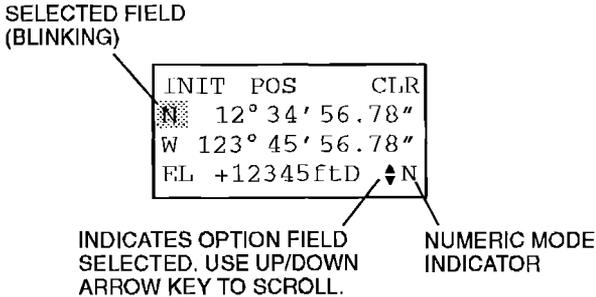

Figure 2-7 Numeric Mode Indicator.
- (1) If the selected field has a number, pressing a key (0 through 9) enters the number. The cursor then moves to the next selectable field. Only one character position is selected at a time, rather than the entire field, when in numeric mode.
- (2) If the selected field is an option field, the double-arrow (↕) and N appear in the lower right-hand corner of the display (see Figure 2-7). When the (↕) N is displayed, the field may be scrolled using the *Up-* or *Down-arrow* key. Use the *Left-* or *Right-arrow* key to move to the next field.
- (3) If the selected field is a function field, the double-arrow (↕) and N appear in the lower right-hand corner of the display. Pushing the *Up-* or *Down-arrow* key starts the function.